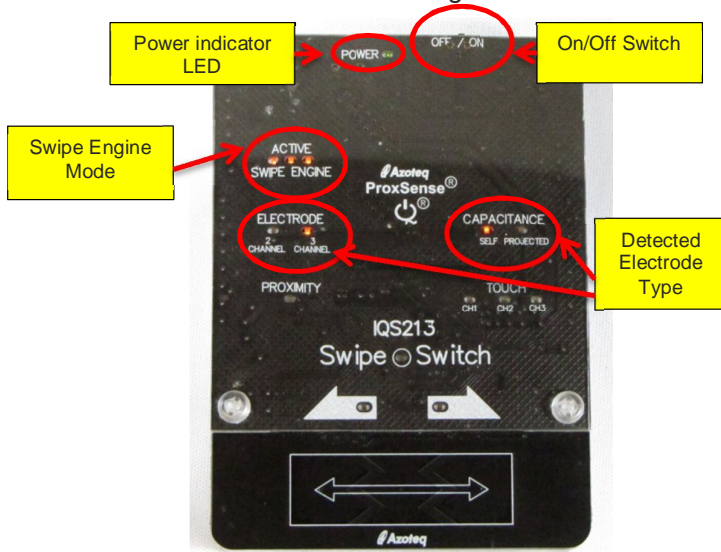

Figure 3.1 IQS213EV03 after power on (top view)
Figure 3.1 illustrates the top view of IQS213EV03 EV-KIT
- Power on the device by using the slide switch as indicated in figure 3.1
The power indicator LED lights up in green to indicate the system is powered up. The system automatically detects which swipe module is plugged in and displays this information as illustrated in Figure 3.1.